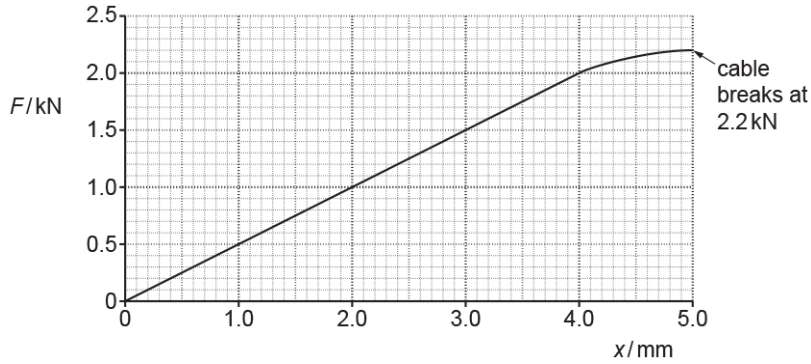

Fig. 16.2
The results of the investigation are shown in Fig. 16.2.
- iii. Use Fig. 16.2 to determine the force constant  $k$  in  $\text{N m}^{-1}$  of the cable.